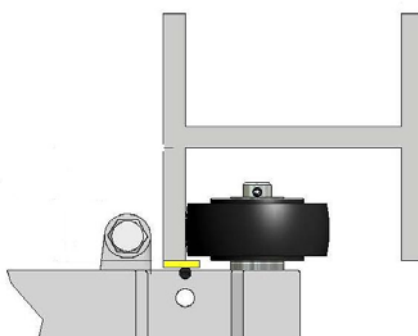

Figure 7
3.1. Place packer (wood, brick etc.), 150mm to 250mm tall at the base of the tracking. Locate Trolleys onto Tracking with the wheel behind the retaining lip, Figure 7. Ensure the Lower Trolleys (F1 and F2) go on the bottom with the eyebolt facing down and that there are an equal number of Intermediate Trolleys (E1), on either side. In total there should be two trolleys for each webbing strap, excluding the upper one (which is fixed to the Top Plates).